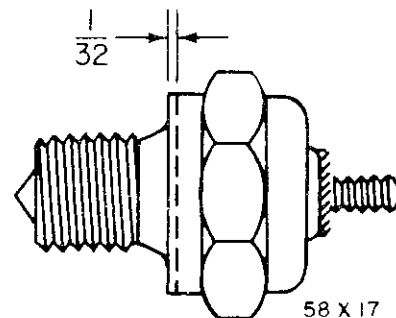

Fig. 15—Neutral Starting Switch
(1) Machine $\frac{1}{32}$ " from the seating surface of the switch, as illustrated in Figure 15.
(2) Clean the switch, replace the concave (cupped) washer and "O" ring seal, and install the switch.
(3) Tighten the switch until the test light just lights, then tighten another $\frac{1}{3}$ to $\frac{1}{2}$ turn.